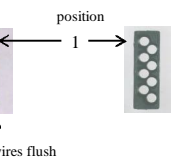

Figure 4
- 4) Make Cut C @ 0.30" from Cut A through the Jacket (Fig. 4). Do Not nick or cut into wire braids. Score the 0.30" section of jacket lengthwise and remove the jacket only.